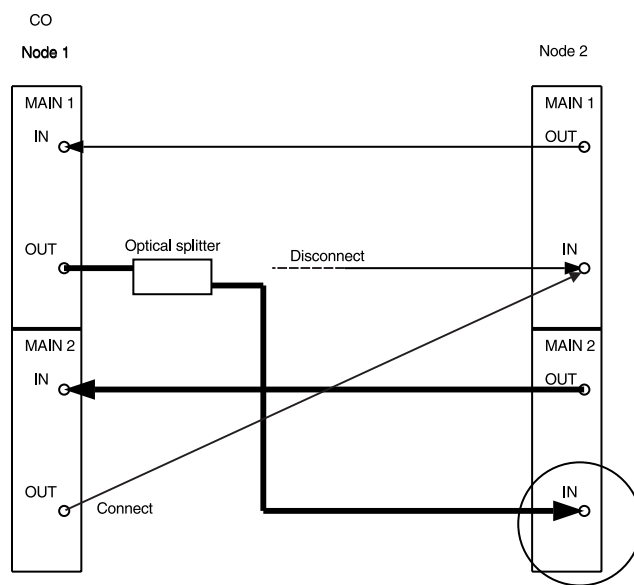

Figure 6. DDM-2000 OC-3 Point-to-Point to Ring Upgrade
16. Disconnect the fiber from the optical splitter output going to Node 2 **MAIN 1 IN**. Connect the fiber from Node 2 **MAIN 1 IN** to Node 1 **MAIN 2(P) OUT**. (See Figure 6.)